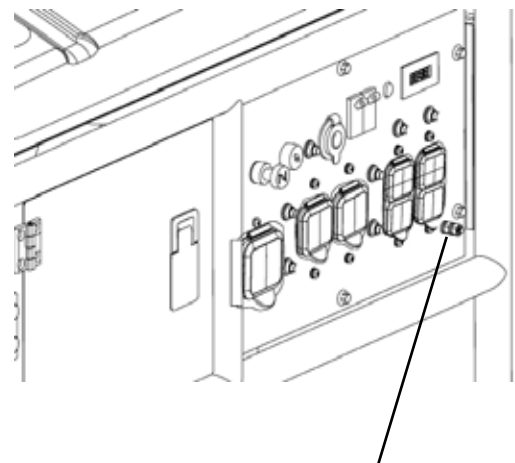

Figure 3 - Grounding Nut
Ground the generator by tightening the grounding nut on the front control panel against a grounding wire (Figure 3). A generally acceptable grounding wire is a No. 12 AWG (American Wire Gauge) stranded copper wire. This grounding wire should be connected at the other end to a copper, brass, or steel-grounding rod that is driven into the earth. Wire and grounding rods are not included in generator contents.
2. Check that the generator is properly grounded (see Figure 3, “Ground the Generator”).